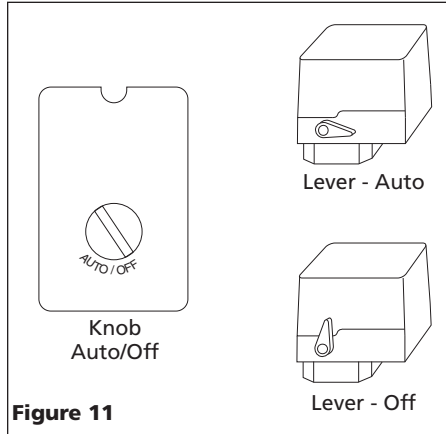

Figure 11
3. Move pressure switch lever or knob to the OFF position and plug in power cord. Move pressure switch to the AUTO position to run the unit (see Figure 11).